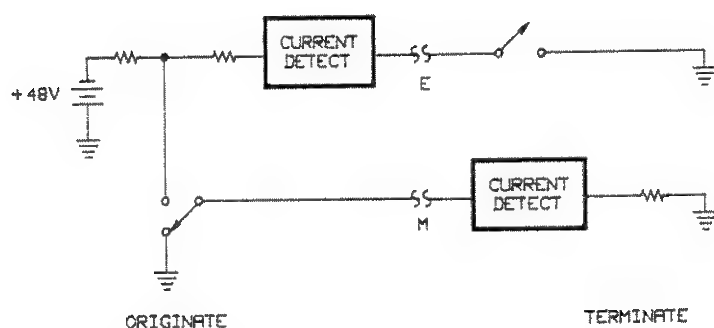

Figure 3-5. E/M Type I Signaling
E/M signaling is used primarily to signal the internal switching of the PBX or shorthaul trunks between two PBXs. E/M signaling uses a separate wire pair to send signaling information (E lead and M lead) from the pair used to send voiceband information (tip and ring). In addition, E/M Types II and III use sense ground (SG) and sense battery (SB) leads to improve signaling performance. (see Figures 3-5, 3-6, and 3-7)